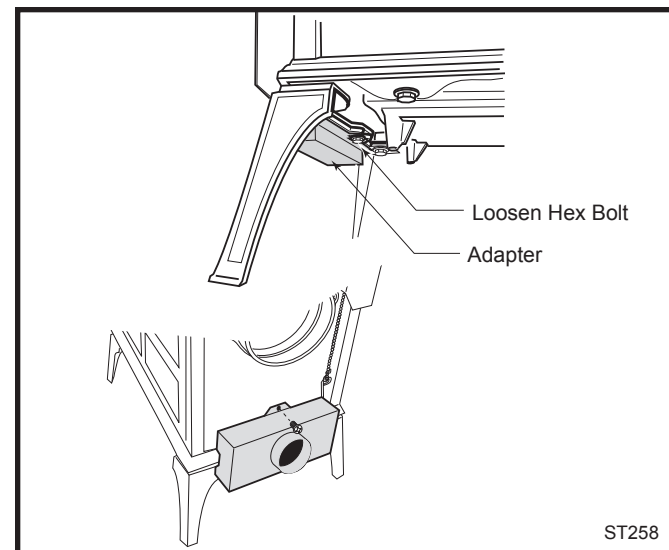

Fig. 24 Attach the adapter to the bottom plate.
3. If you are not installing a Rear Heat Shield, use the phillips head screw to secure the upper flange of the Adapter to the stove at the hole from which the screw was removed in Step 1. (Fig. 24) Otherwise, a heat shield spacer will be used here. (See “Install the Rear Heat Shield”, below.)